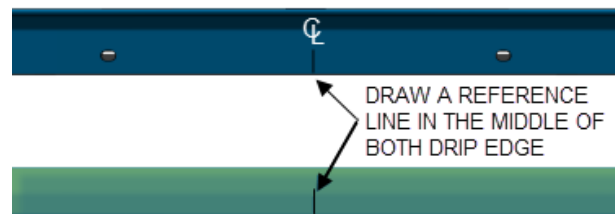

FIGURE 49
8. Draw a line to mark the center of both drip edge (FIGURE 49).